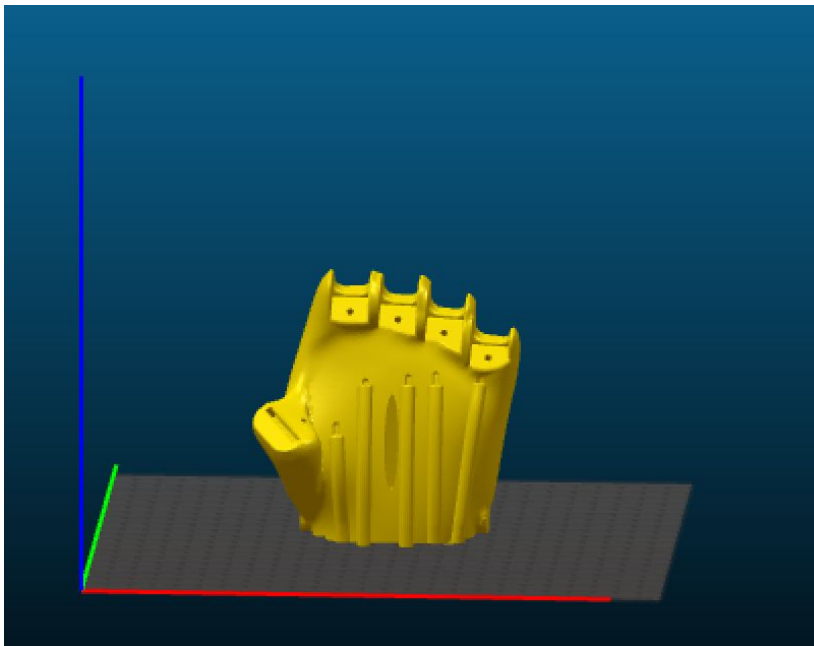

Fig.3 Palm Printing
- Palm: Orient the hand as seen in the picture below (Fig.3) and please don't add any support. It is printed with 35% infill with Ninjabflex.